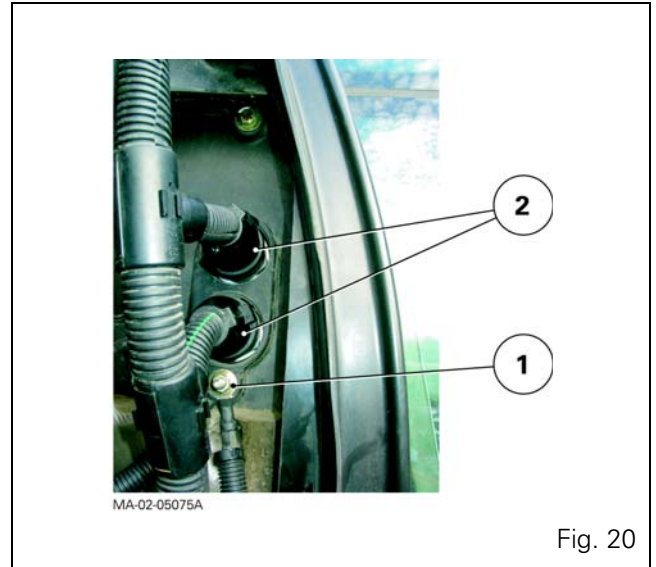

Fig. 20
45. Disconnect the connectors (2) and the ground terminals (1) on the left-hand side of the cab wall (Fig. 20).